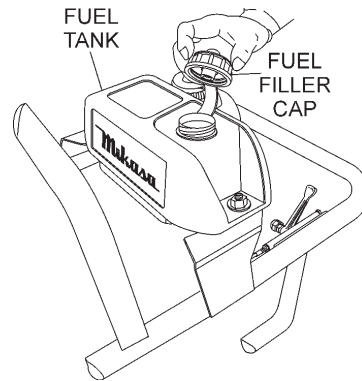

Figure 4. Fuel Tank
2. If fuel is low, remove the fuel filler cap (Figure 4) and fill with only unleaded gasoline. Motor fuels are highly flammable and can be dangerous if mishandled. **DO NOT** smoke while refueling. **DO NOT** attempt to refuel the rammer if the engine is hot or running.